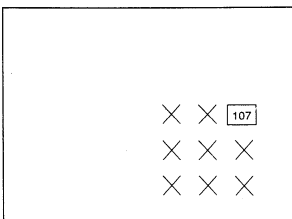

fig. 15
- Adjust value on the picture to 107 (Fig. 15).